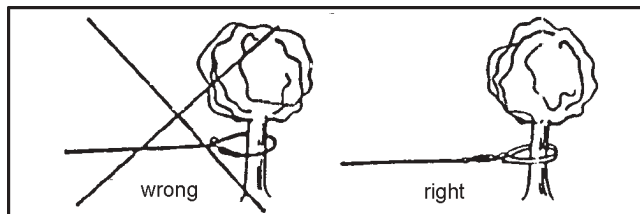

Figure 11-8 Incorrect and correct hook-up
8. NEVER HOOK THE WIRE ROPE BACK ONTO ITSELF. Use a nylon sling. Hooking the wire rope onto itself can damage the rope (Figure 11-8).